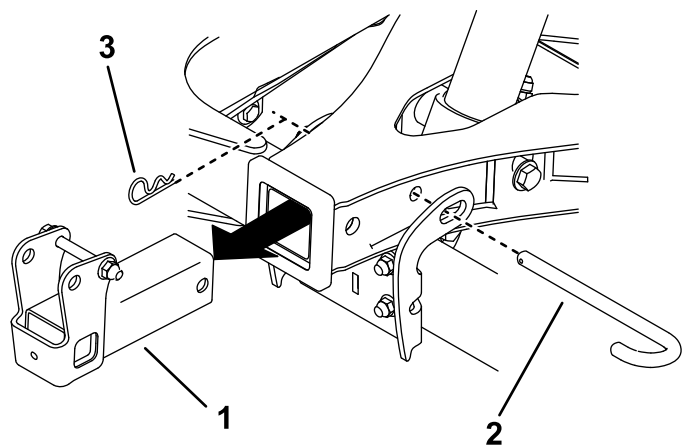

Figure 23
7. Remove the hitch pin, cotter pin, and hitch receiver from the A-frame. Install the hitch pin and cotter pin to secure the A-frame (Figure 23).